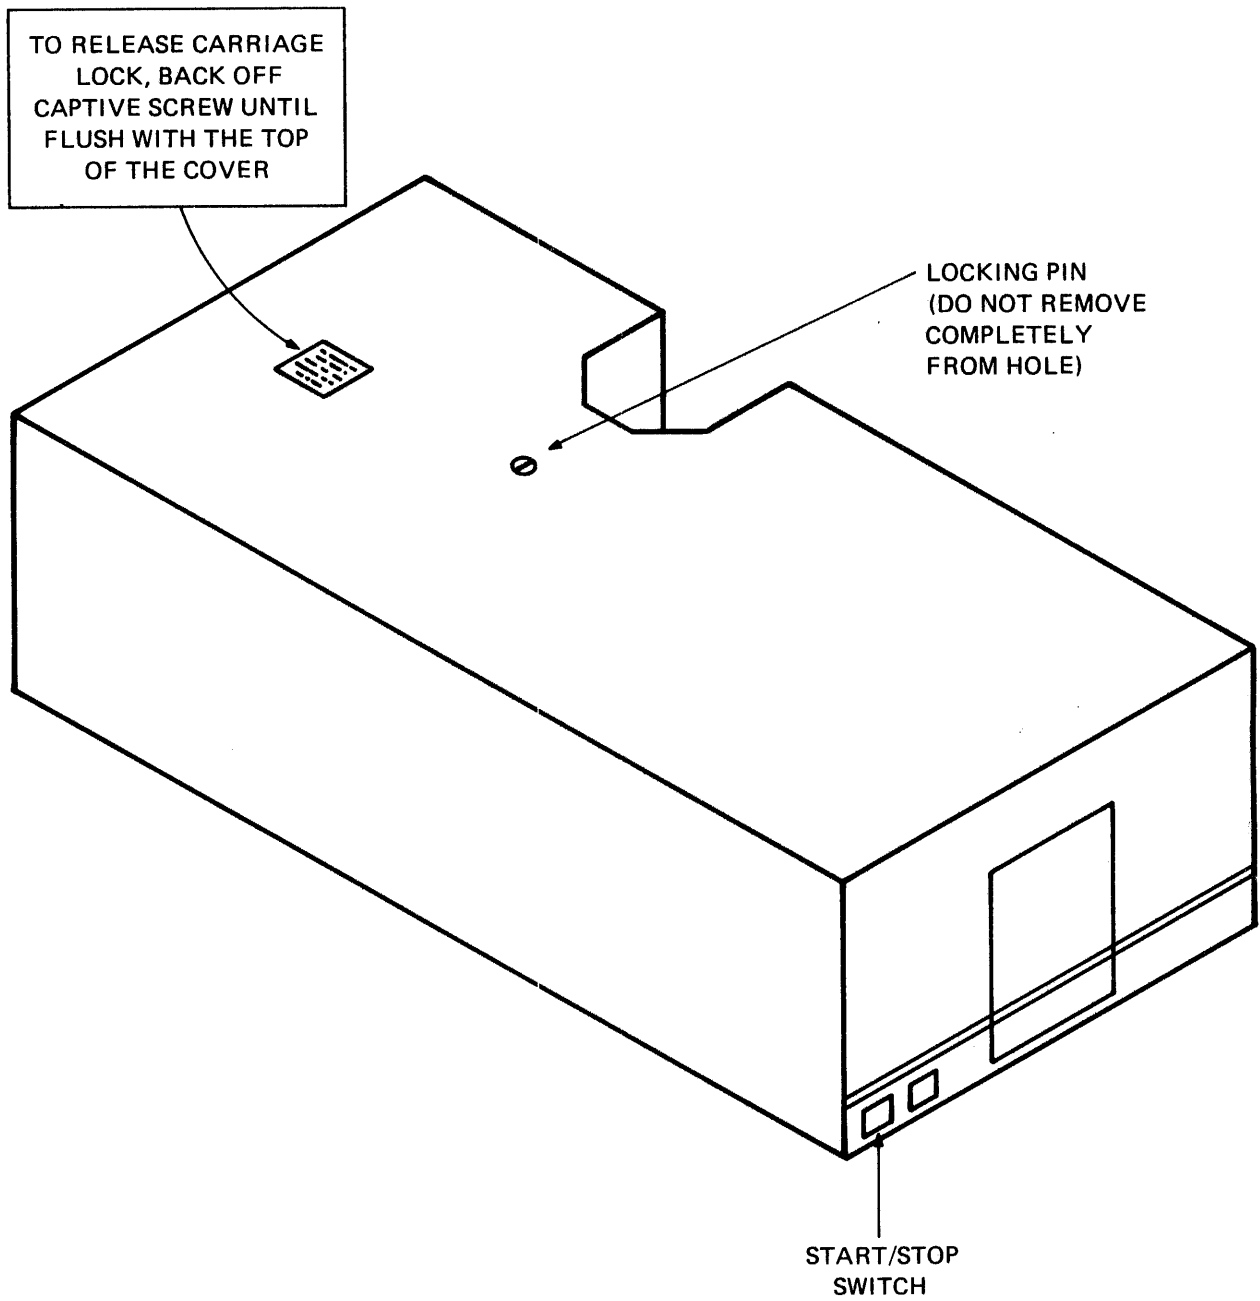

Figure 3-8 CDD50 Carriage Lock
3. Unscrew carriage locking pin on the top of the disk drive in a counterclockwise direction until head of screw is flush with top of cover (see Section 3.4.2 and Figure 3-8). Resistance to turning will be felt as locking pin nears the correct position.
4. Ensure that the circuit breakers on the disk drive power supply, the master power supply and the system cabinet are in the ON (1) position.
The disk drive is supported when extended from the cabinet to expose the locking pin located on the top surface of the disk drive. See Figure 3-8. The carriage locking pin must be in the unlocked position for proper operation of the disk and in the locked position when the disk drive is removed from the cabinet.